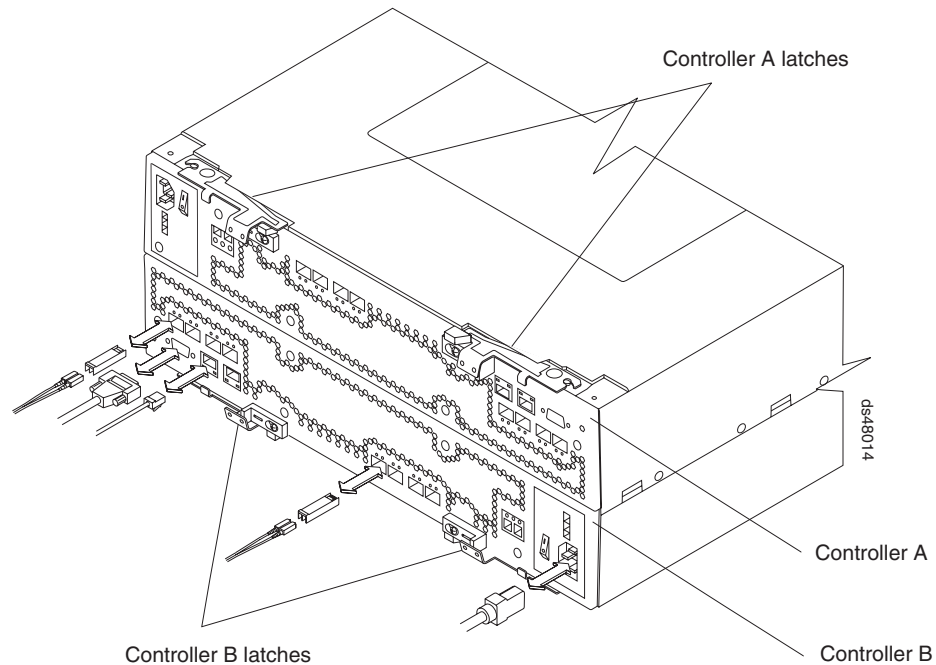

Figure 3. Controllers in the storage subsystem
upper controller is controller A; the lower controller is controller B. All connections to the hosts and the drives in the storage configuration are through the controllers. Figure 3 shows the controllers in the DS4800.
**Note:** Although both RAID controller units (A and B) in the DS4800 are identical, they are seated in the DS4800 chassis in opposite orientations. As shown in Figure 3, the controller units must be inserted in the DS4800 so that the latches of each controller are on the exterior of the DS4800 chassis. The latches on controller A line up with the top side of the DS4800 chassis; the latches on controller B line up with the bottom side of the DS4800 chassis.